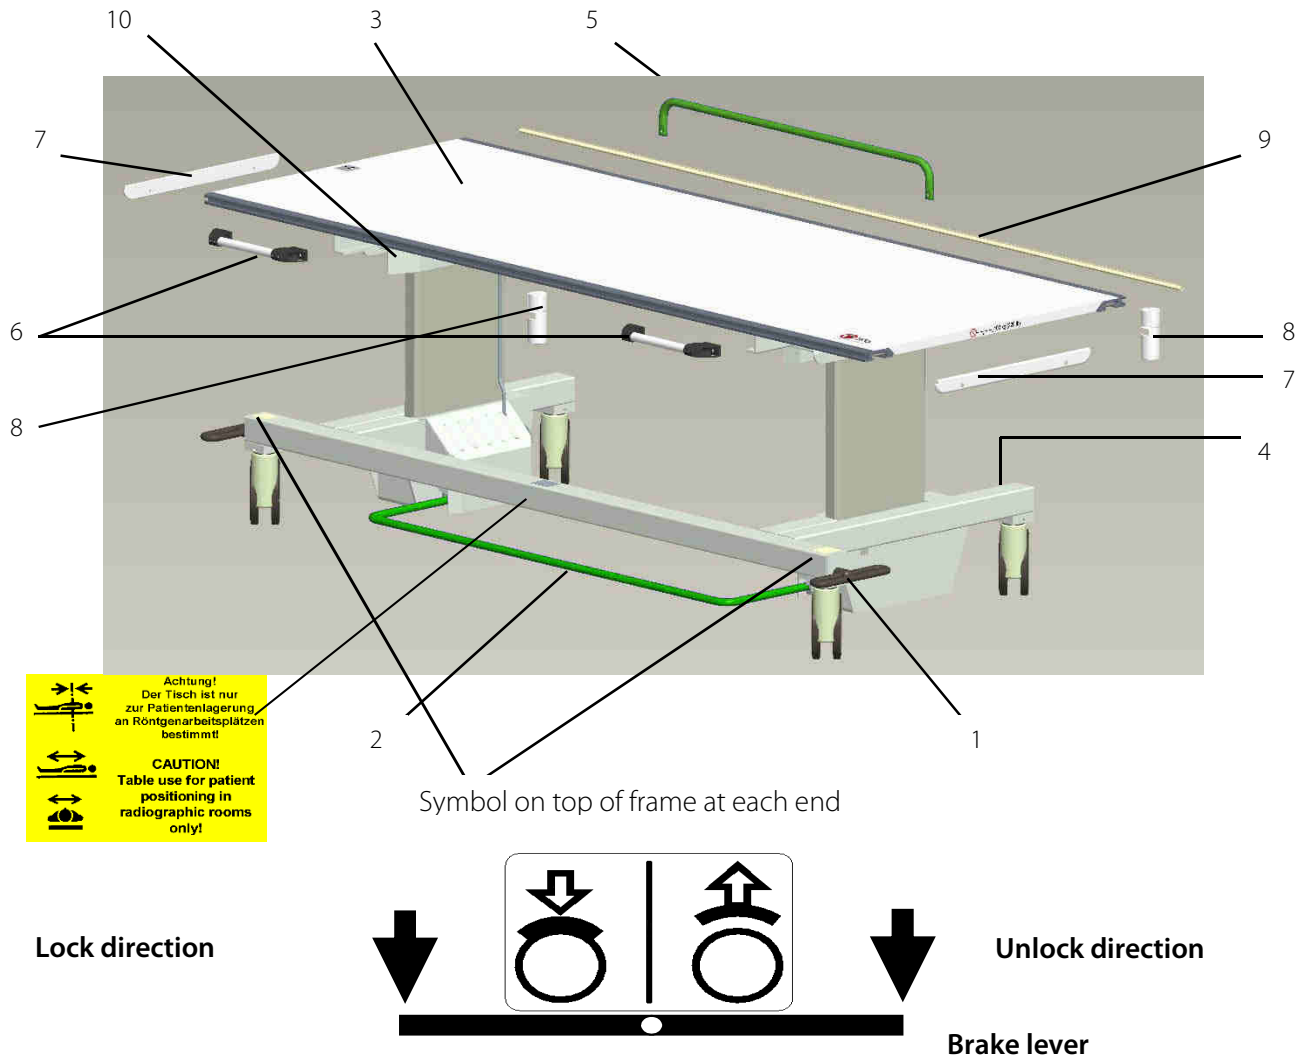

Figure 2-1
For nameplate location refer to Figure 2-1/item 4.
In order to fix the patient table in all directions, it is fitted with 2 brake wheels at the front, which have to be fixed with a fastener (Figure 2-1/1) on the left or right side before a patient gets on or off the tabletop.
Depress the brake foot-pedal bar (Figure 2-1/2) for manual movement of the tabletop.
As options a long handle at rear side of the table top (Fig. 2-1/5) and short hand grips (Fig. 2-1/6) at front side of the table top are available. The hand grips and handle can be removed with tools only. The long handle can be used for patient to easier getting ON and OFF the table top. The short hand grips allow more convenient movement of table and table top.
The deflectors (Fig. 2-1/8) at the transverse carriage avoid contact of the u-rail of transverse carriage with detector housing and consequently facilitate the positioning of the table.
The side edge guards (Fig. 2-1/7) avoid direct contact of detector housing with the z-angle.
The protection profile (Fig. 2-1/9) avoids a direct contact of rear accessory rail of the table with the stand or detector support.
The protection film (Fig. 2-1/10) on internal covers increases the slippage at contact with detector housing.
Before patients get ON or OFF the table, the PROGNOST XP brake wheels must be fixed in all directions with brake lever (Figure 2-1/1)